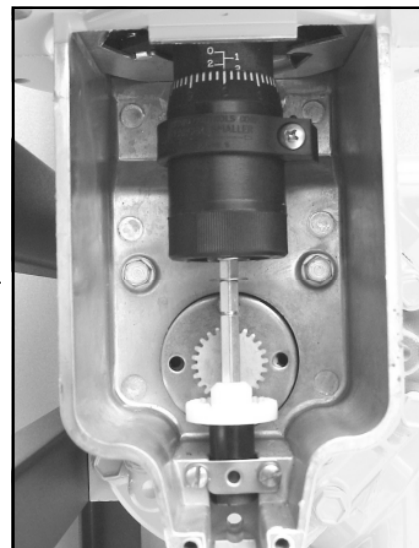

Figure 3A—Adjuster housing with cover removed
1. Remove the adjuster housing dust cover. Remove the wire seal passing through the two bolts in the bottom of the cover. Next remove the bolts and the cover. Figure 3A shows the adjuster housing with the cover removed.